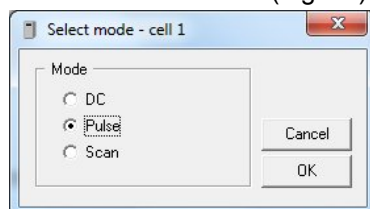

Fig. 11. Select mode window.
3. Select Pulse mode (Fig. 11) and click OK.